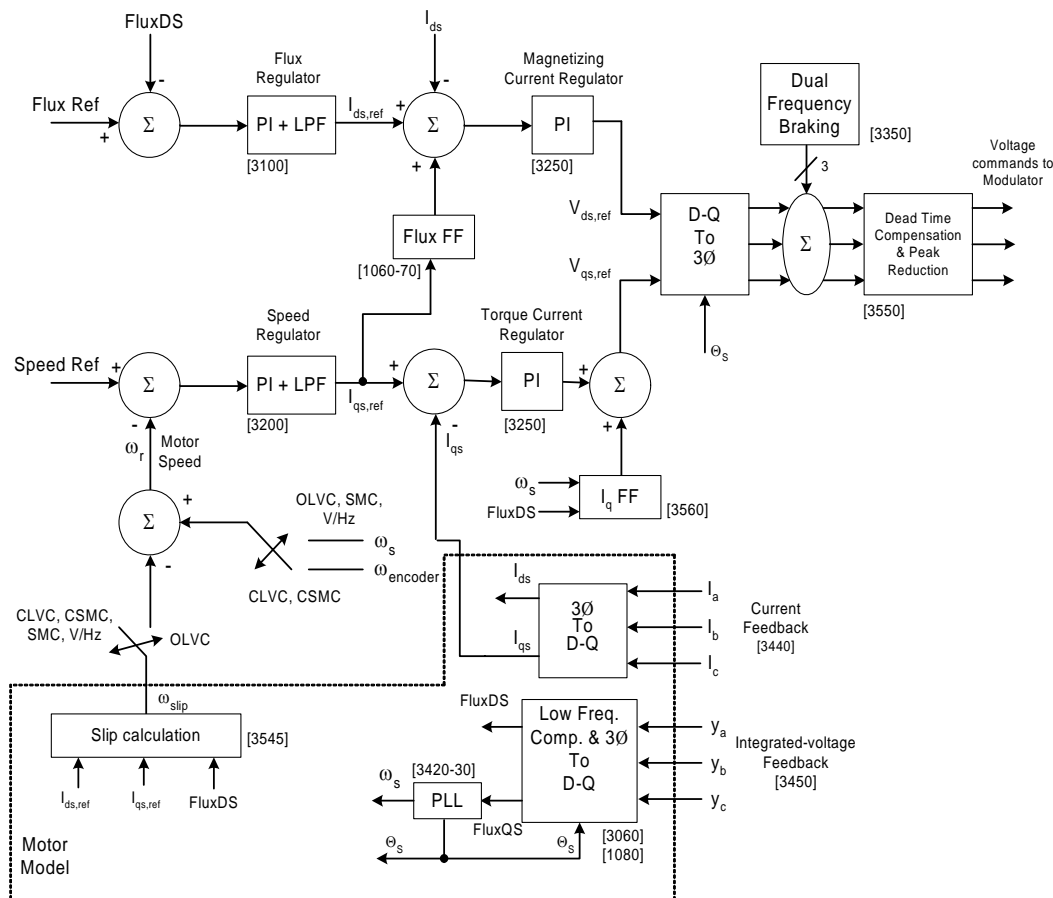

Figure 6-11. Block diagram of vector control algorithms for induction and synchronous motor control
The flux angle is used to decompose the measured motor currents into magnetizing and torque producing components. It is this decomposition that allows independent control of flux and torque, similar to DC motor control. These current components are regulated to their commanded values by the current regulators. Outputs of the current regulators are combined to produce three-phase voltage commands that get modified with signals from various other control routines before being passed on to the modulator. These control routines include: (1) dead-time compensation (to compensate for dead-time in the switching of the upper and lower IGBTs of each pole in a power cell), (2) peak reduction for third-harmonic injection (to maximize drive output voltage, and for drive neutral-shift [during transparent cell-bypass]), and (3) voltage commands to produce losses for dual-frequency braking. Transient response of the flux and torque regulators is improved with the use of feed-forward compensation (FF) as shown in Figure 6-11. The following table describes the symbols used to represent various quantities in the control diagram.
Table 6-1. List of Symbols Used in Figure 6-11
Speed feedback is synthesized from the stator frequency and the estimated motor slip, as shown in Figure 6-11. With this control method, slip compensation is automatic.
The overall control strategy is similar to Open Loop Vector Control, except for the flux regulator implementation as shown in Figure 6-11. For synchronous motors, the flux regulator provides two current commands, one for the field exciter current, and another for the magnetizing component of stator current.
The control diagram of Figure 6-11 remains the same except for the slip calculation block which is disabled, so that encoder speed feedback is directly used as an input to the speed regulator.